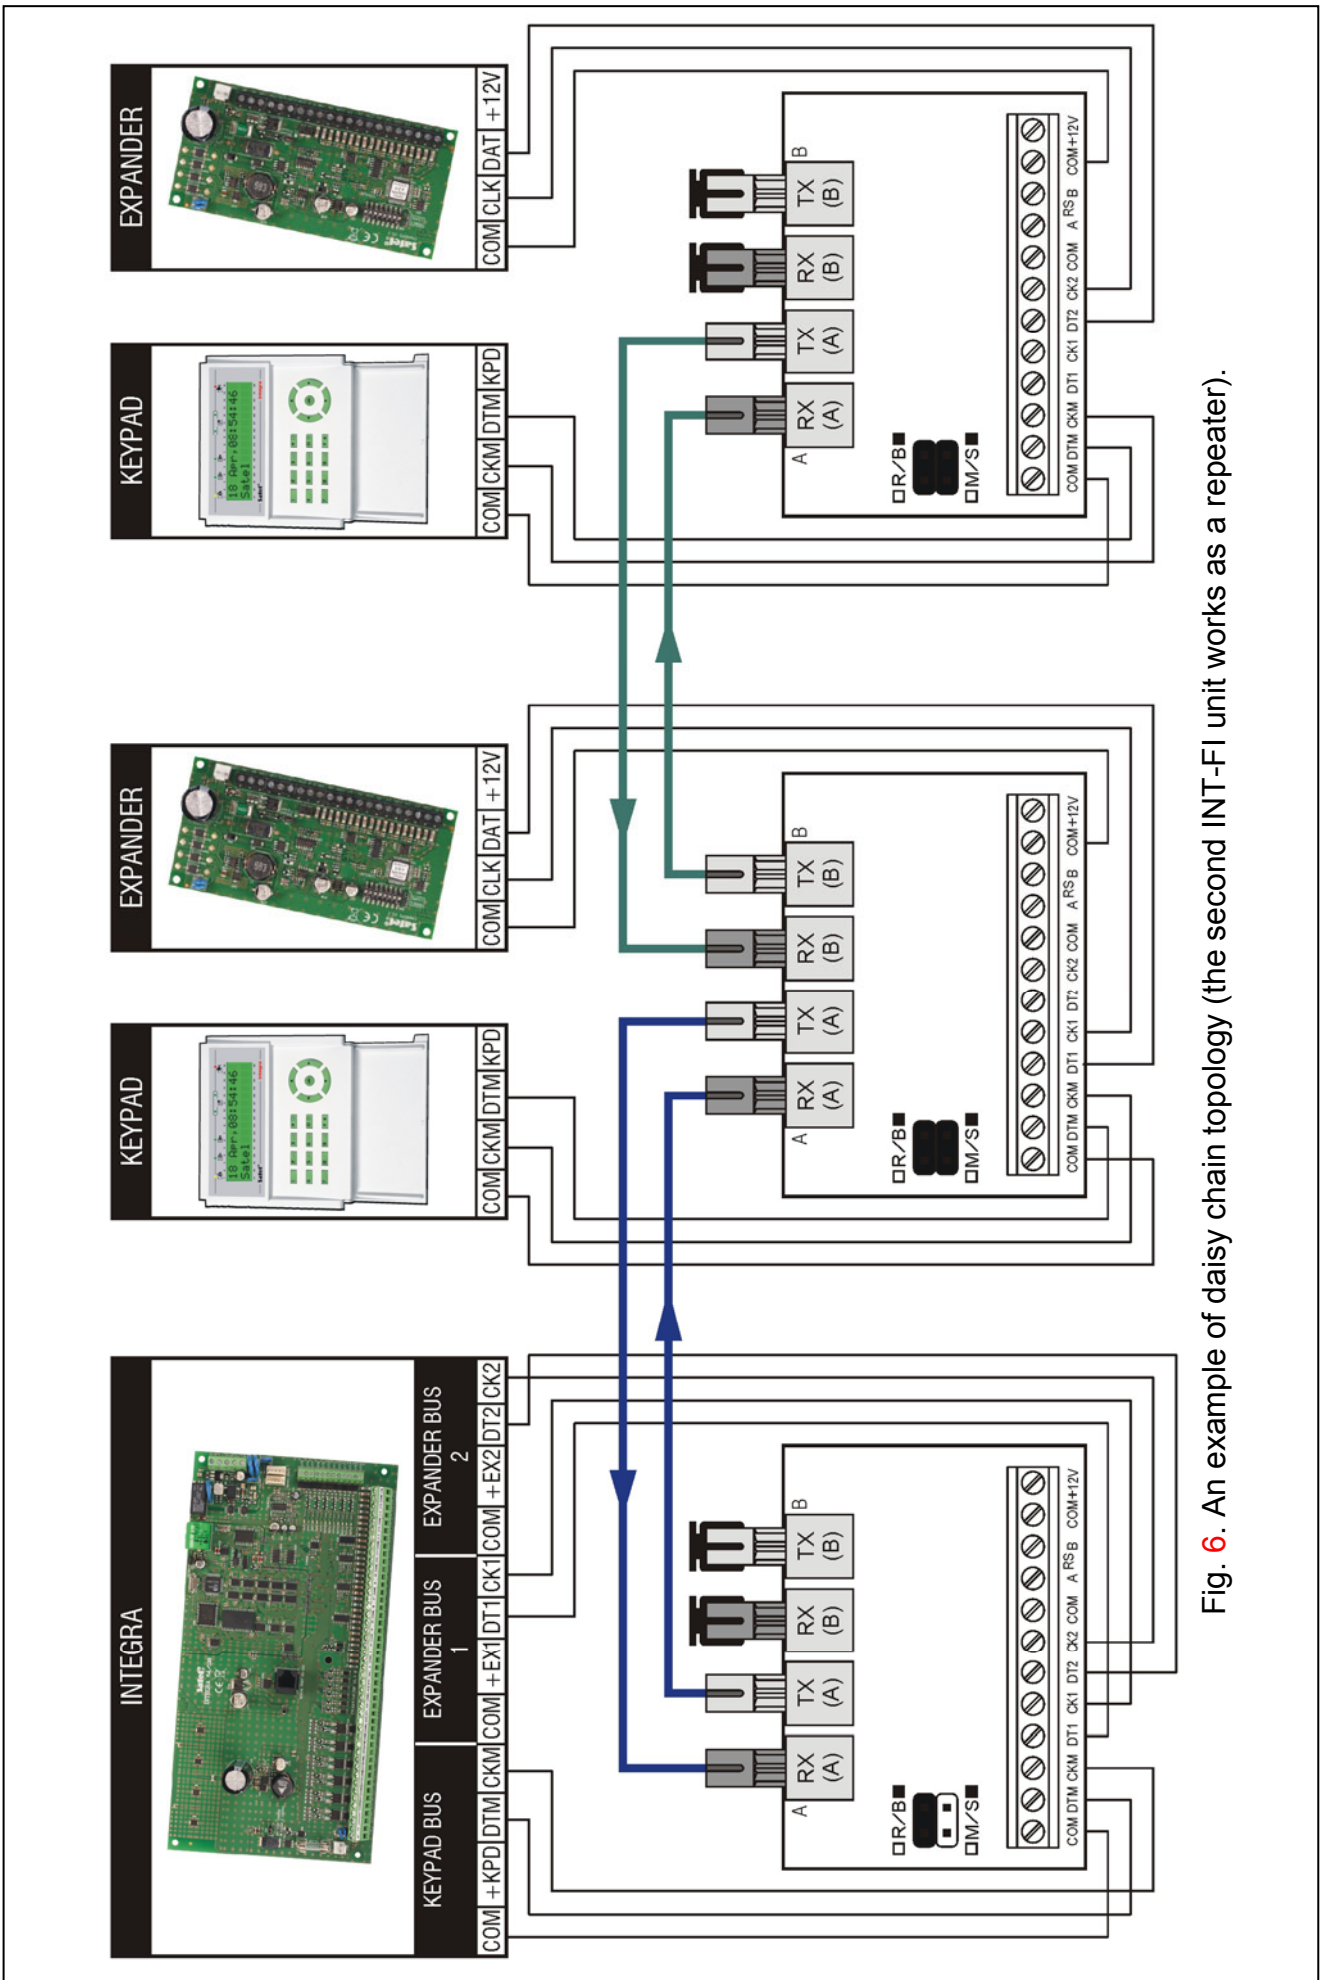

Fig. 6. An example of daisy chain topology (the second INT-FI unit works as a repeater).
- A possibility to extend the fiber optic distance up to 4 km in case of daisy chain topology (see Fig. 6).